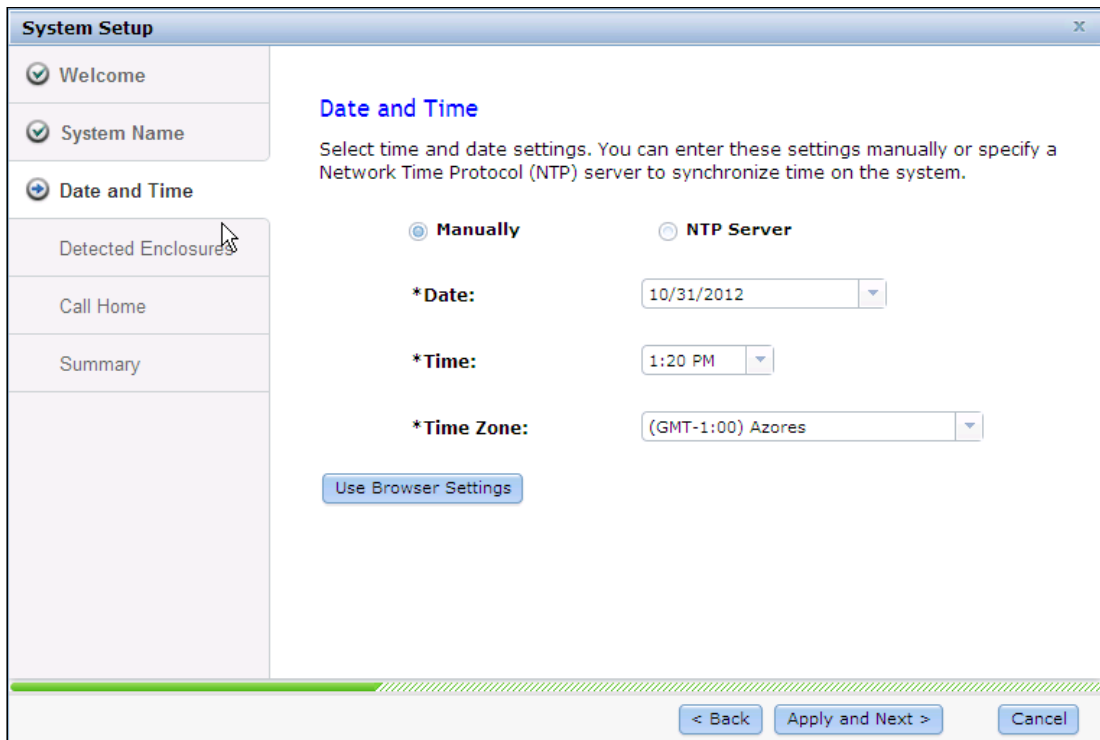

Figure 2-16 Setup Wizard - date and time
3. Setup date and time as shown in Figure 2-16 on page 43.